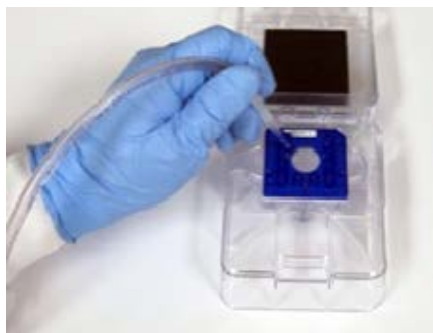

Figure 1. Using a vacuum to aspirate the chip wells is more effective than using a pipette. See page 36 for details.
- 2 Use a pipette tip attached to a vacuum line to thoroughly aspirate all fluid from the chip wells (see Figure 1). For more details on how to set up a vacuum line see page 36.